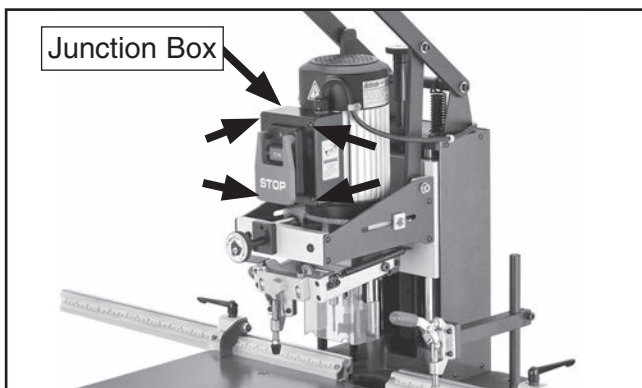

Figure 4. Motor junction box and screw locations.
3. Open the motor junction box (see **Figure 4**) by removing the four screws from the front.